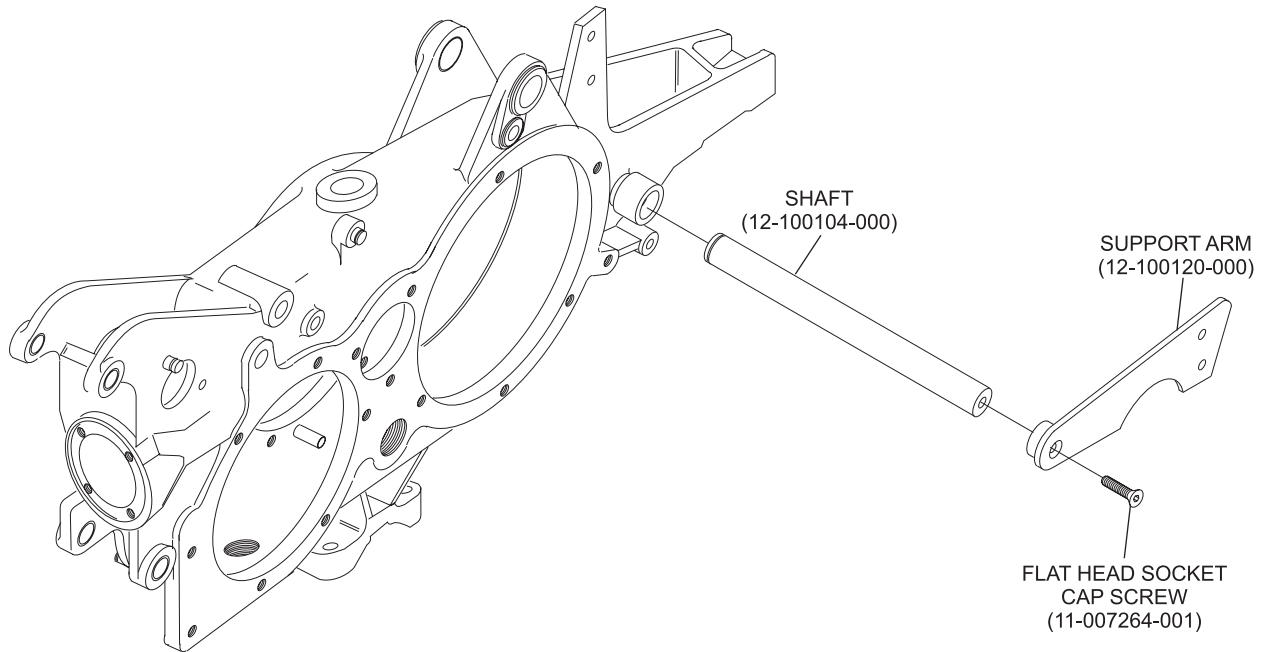

Figure 2
10. Install the provided support arm (12-100120-000) by placing it against the end of the shaft using socket cap screw 5/16-18 x 1" (11-007264-001) provided in the kit to secure the end of support arm to the end of the shaft. Refer to *Figure 2*.